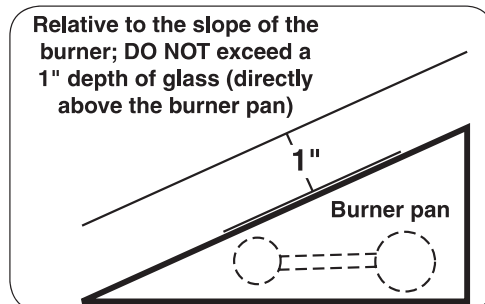
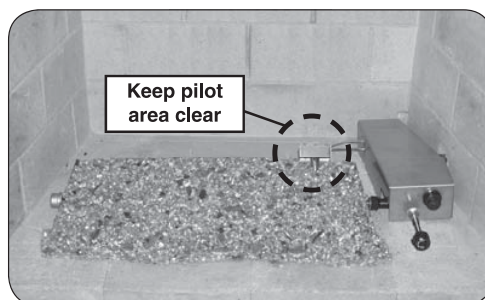
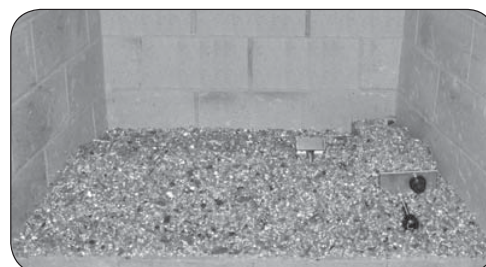

Fig. 9-4
Fig. 9-5
Fig. 9-6
1. Pour the glass / gems directly on top of the granules and screen so that the burner pan is covered completely and evenly. Relative to the slope of the burner; DO NOT exceed a 1" depth of glass (directly above the burner pan) as shown in Fig. 9-4. DO NOT place glass directly under the pilot. See Fig. 9-5 and Fig. 9-6.
Note: At this stage the burner will function as designed; however, more glass / gems may be added around the burner for decorative purposes. If glass / gems are desired behind the burner pan, they may be left at a lower level than the back of the pan, as shown in Fig. 9-6, or raised up to or above the level in the back of the pan.
2. Add additional glass / gems around the burner pan as desired (Fig. 9-6). (Be sure to keep pilot area clear.)